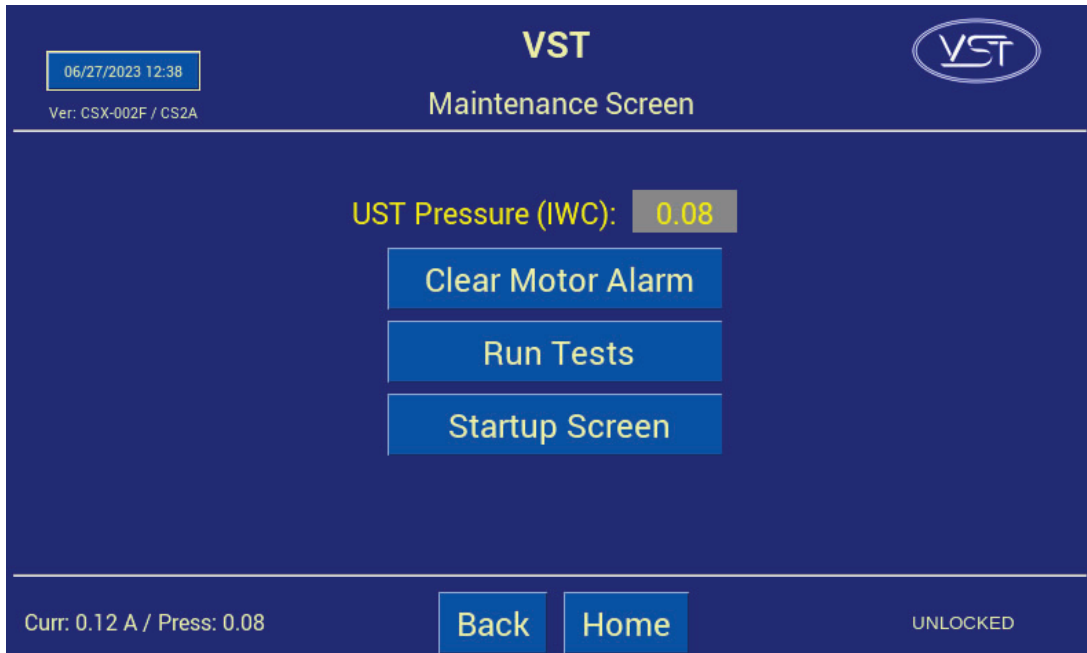

Figure 9-25: Maintenance Screen
2. Make sure the Maintenance Screen is showing on the PLC. **See Figure 9-25.** (The GREEN MACHINE is now in the Manual OFF mode and will not operate.)
8. At the GREEN MACHINE PLC, enter the Maintenance Screen with the password 878. Enter the Test Screen and select Leak Test. **See Figure 9-25 and 9-26.**